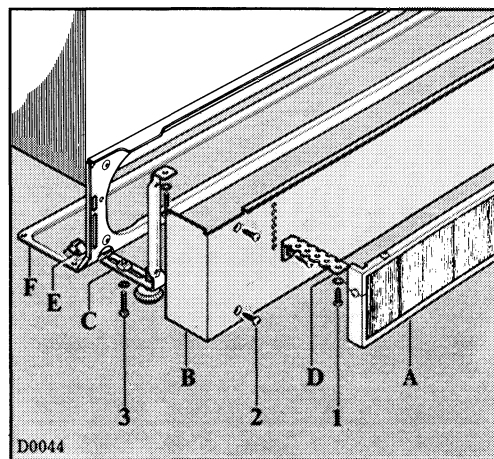

fig. 27
## Adjusting the Base in Depth (fig. 27)
Refit the lower panel and secure it with the respective screws (1) to the two brackets (D) after adjusting them in height (fig. 27).